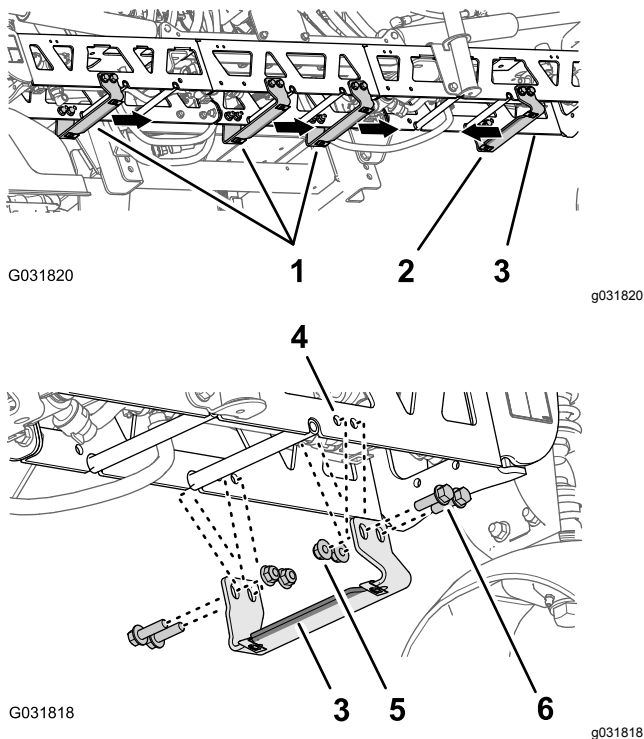

Figure 236
- At the center boom section, locate the right most pair of holes in the vertical face of the truss frame with a 25 mm (1 inch) hole spacing (Figure 236).
- Align the holes in a support bracket (Toro Part No. 131-3703-03) to the holes in the center boom section that you identified in step 3 with the wide flange of the bracket to the left; refer to Figure 236.
- Assemble the support bracket to the truss frame (Figure 236) with 4 flange-head bolts (3/8 x 1-1/4 inches—Toro Part No. 110-5050) and 4 flange locknuts (3/8 inch—Toro Part No. 104-8301).
- Locate the remaining pairs of holes in the vertical face of the truss frame with a 25 mm (1 inch) hole spacing (Figure 236).
- Align the holes in the 3 support bracket (Toro Part No. 131-3703-03) to the holes in the center boom section that you identified in step 6 with the wide flange of the bracket to the right (Figure 236).
- Assemble the support brackets to the truss frame (Figure 236) with 12 flange-head bolts (3/8 x 1-1/4 inches—Toro Part No. 110-5050) and 12 flange locknuts (3/8 inch—Toro Part No. 104-8301).